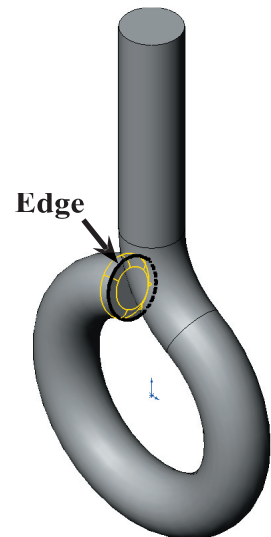

Fig. 14
- Step 3. Click inside edge at end of sweep and click OK  in the Property Manager, **Fig. 14**.